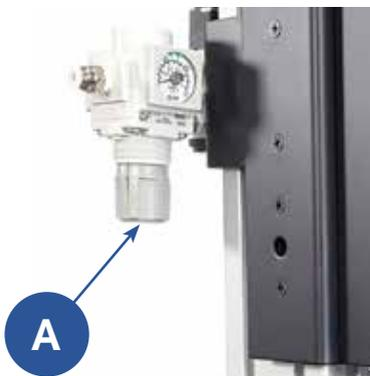

Figure 6.2. Pull down and turn the regular adjustment knob (A) to increase or decrease air pressure to the weld head.
- Pull down on the regulator adjustment knob (A) as seen in Figure 6.2.